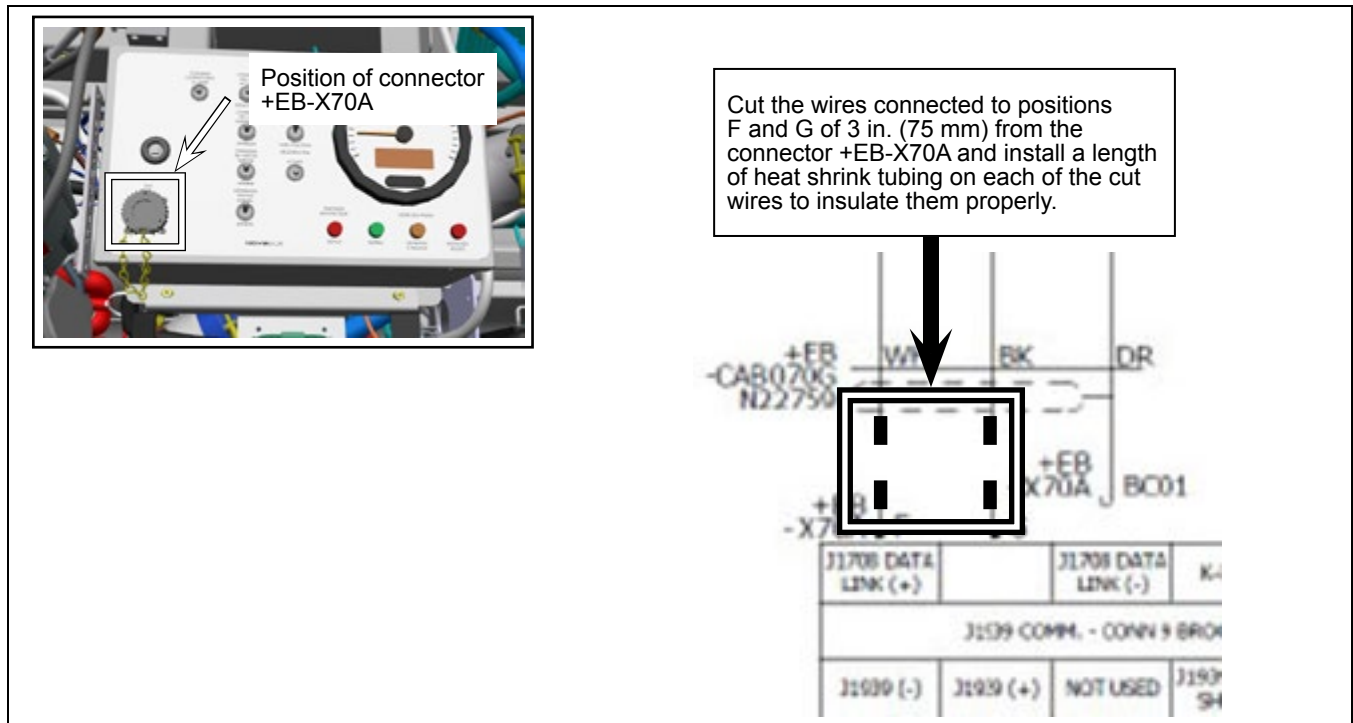

Figure 11 - Location and Modification of the +EB-X70A Connector on the Engine Control Module
- 1.27. Locate the +EB-X70A connector in the engine compartment. See Figure 11.
- 1.28. Cut the wires connected to positions F and G 3 in. (75 mm) from +EB-X70A connector. See Figure 11.
- 1.29. Cut four lengths of N27548-18 heat shrink tubing and install a piece on each on of the cut wire ends to insulate them properly. See Figure 11.